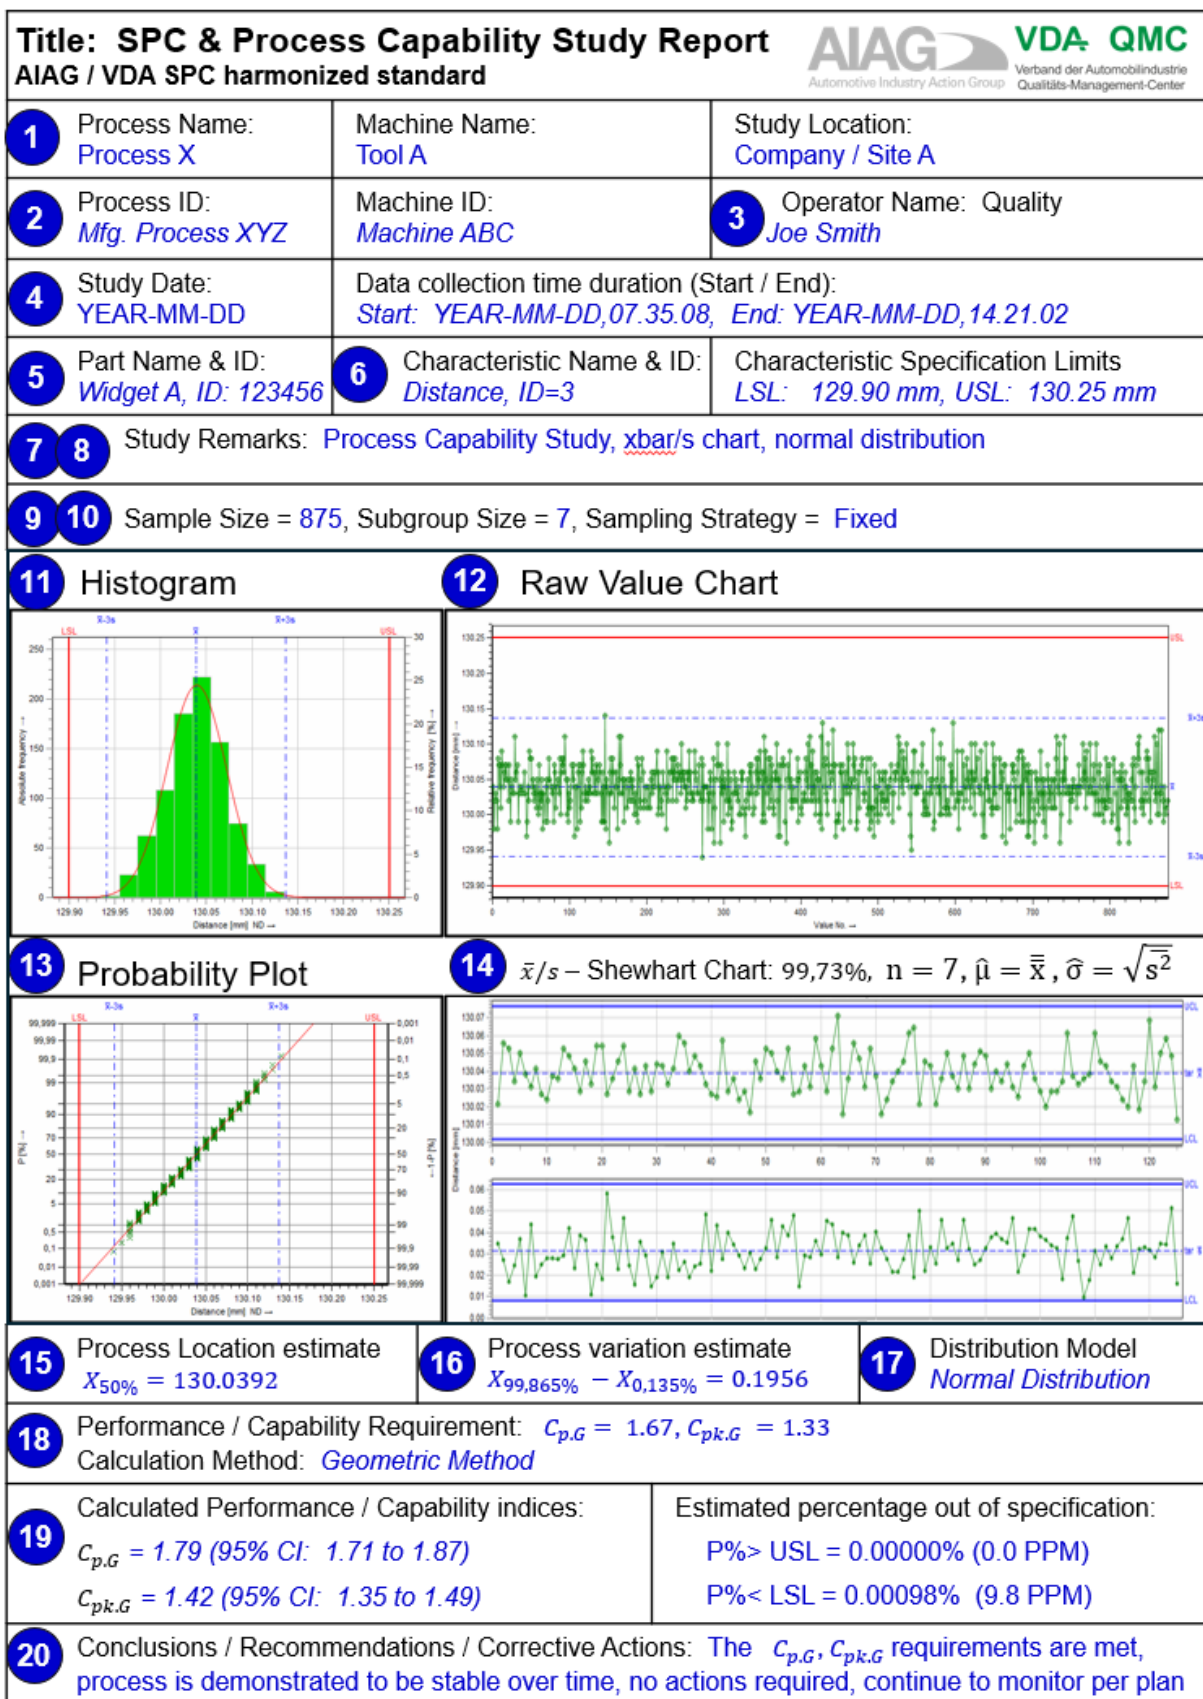

Figure 12-1: Example Report with Fictional Data for Process Capability (Normal Distribution)
- **Figure 12-1:** Example Report for Process Capability (Normal Distribution)
Summary of Key Report Observations, as illustrated in Figure 12-1